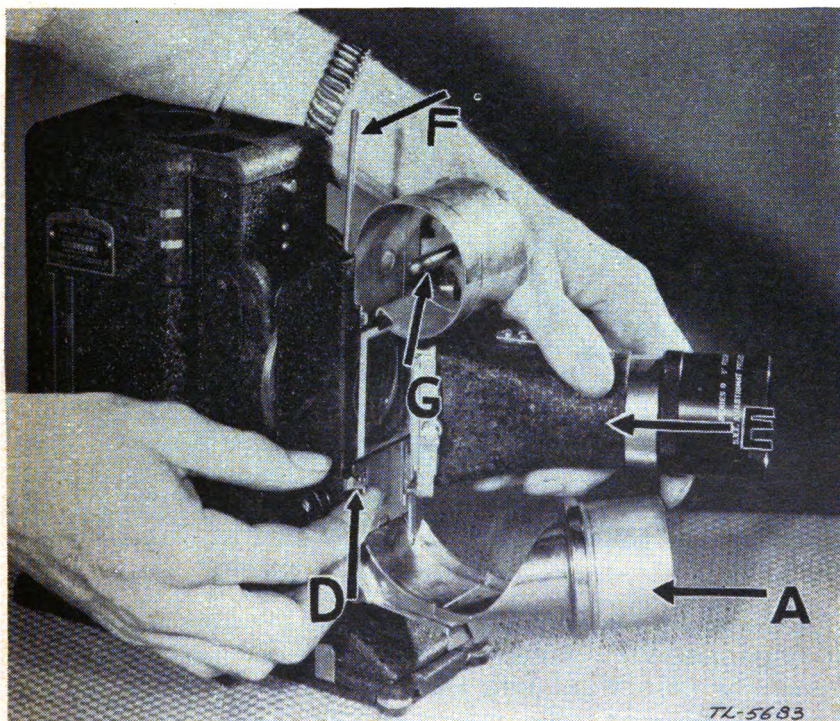

FIGURE 71.—Projector PH-222—showing film gate.
*b.* Open film gate by releasing catch spring *D* (fig. 71) and swinging lens barrel *E* to the left.